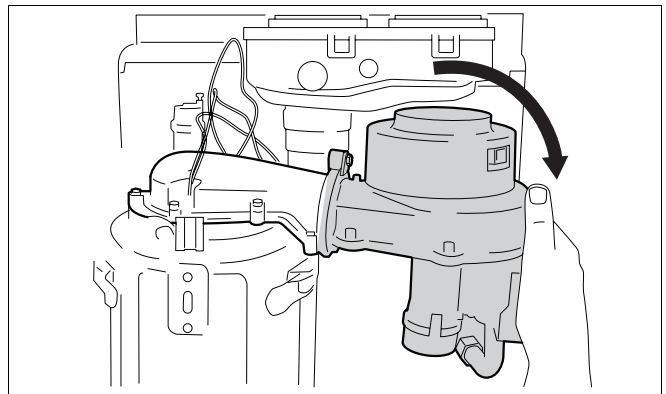

fig. 74 Remove fan
- Remove the fan by moving it in the direction of the arrow (→ fig. 74).